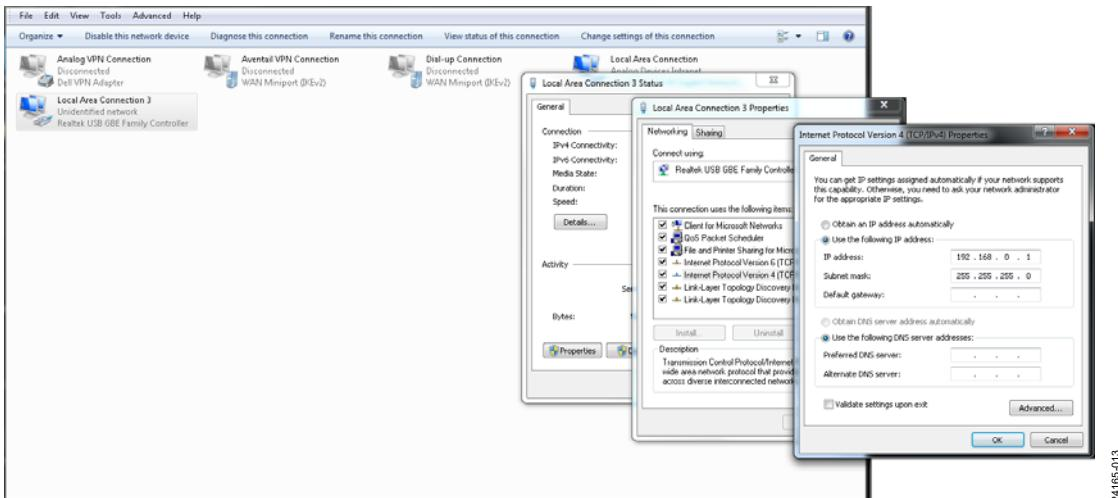

Figure 12. Internet Protocol Settings
6. Double click the Local Area Connection icon that appears (Figure 12 shows Local Area Connection 3 as an example).